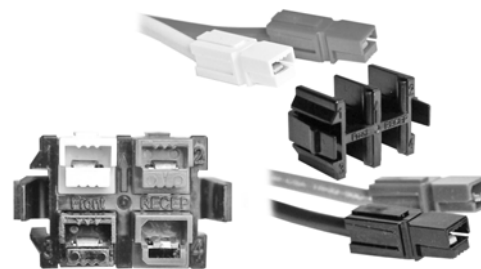

Figure 5
5. Position Holder so Arrow on front is up (See Figure 5). Insert Housings into Holder from top for position 1 & 2 and from bottom for position 3 & 4. Holder is marked with "Front".